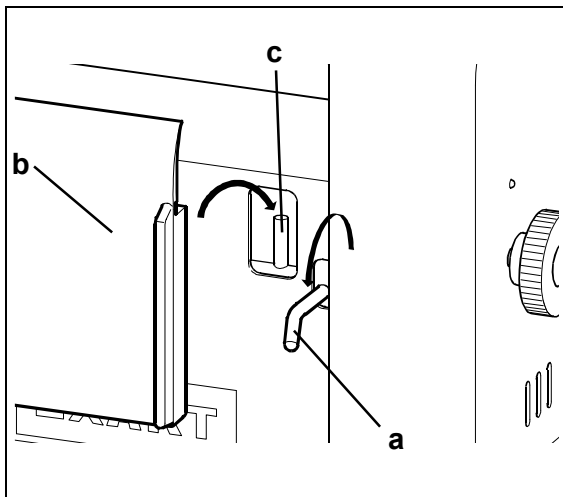

Fig. 10: Scraper swivelling system
If material builds up around the seating pin (Fig. 10/c), the scraper will not seat properly. Consequently, the product cannot be removed correctly (see also the *maintenance* section).
- Push the lever down (Fig. 10/a) to expose the pins (Fig. 10/c).
- Seat the scraper (Fig. 10/b) evenly on the two pins (Fig. 10/c).